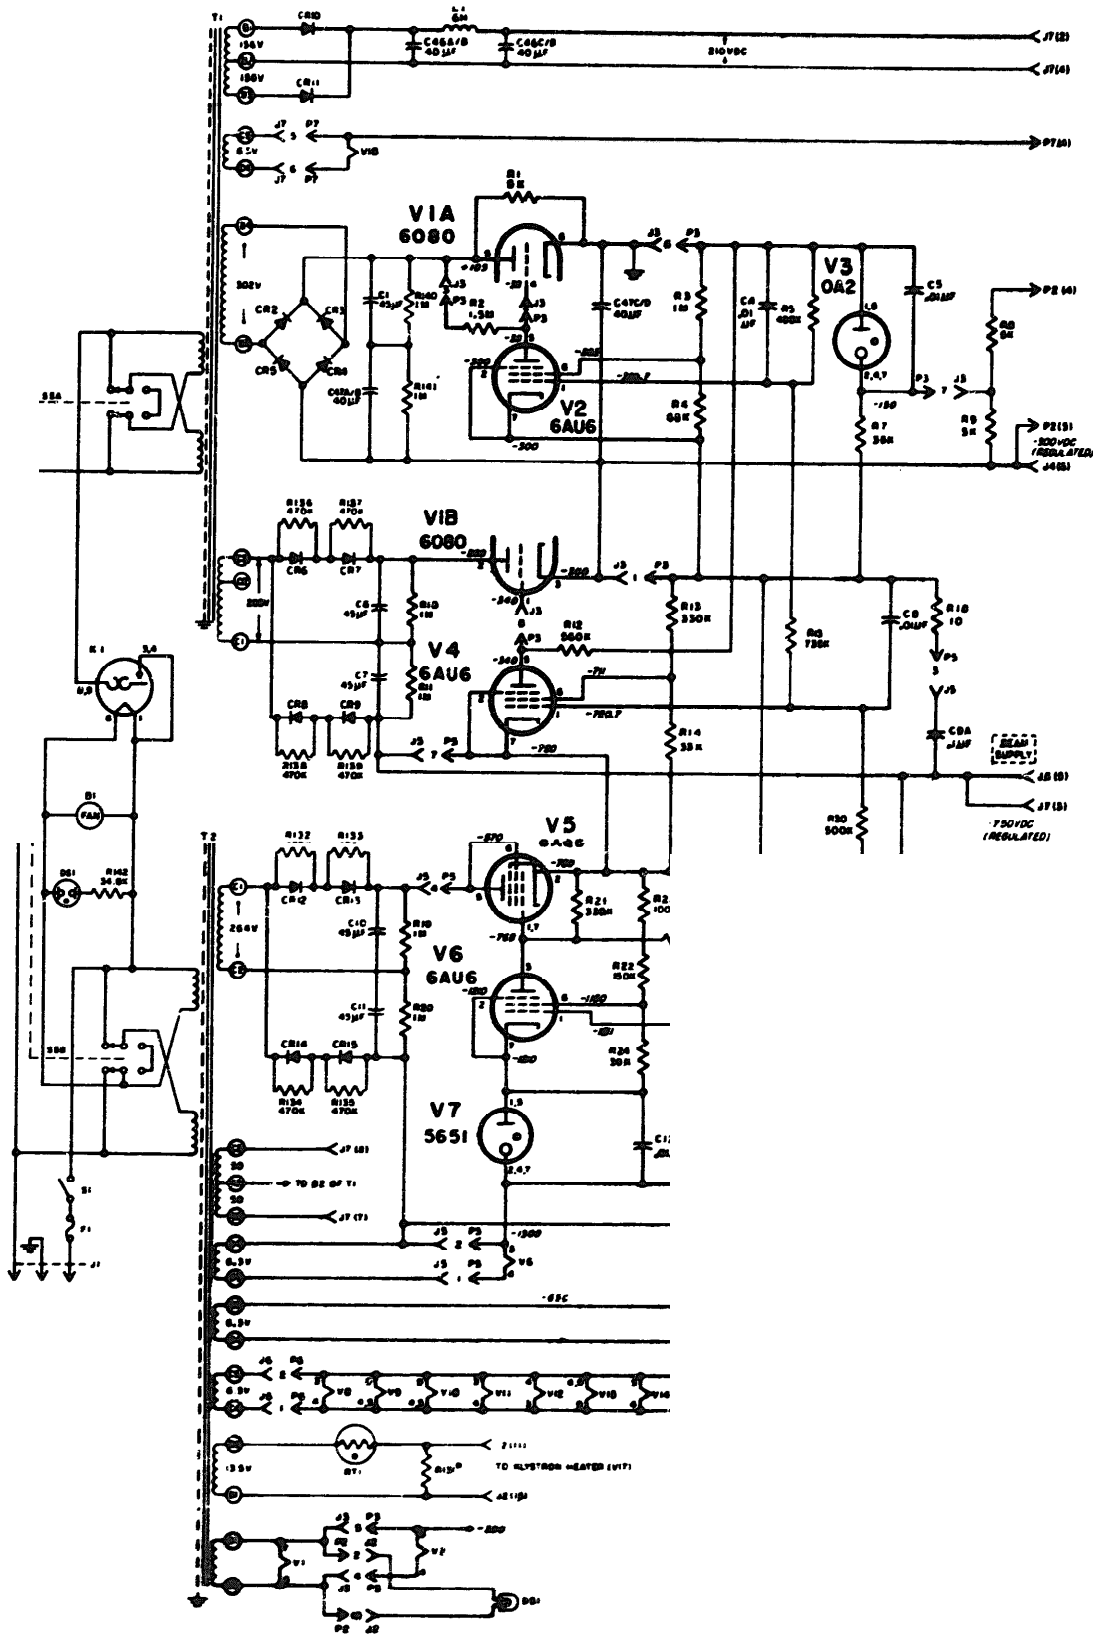

Figure 5-16. Power Supply (Part of Change 1)
**Page 5-21, Figure 5-16:**
Replace existing Figure 5-16 with the new attached copy.
Page 21, Figure 5-16: